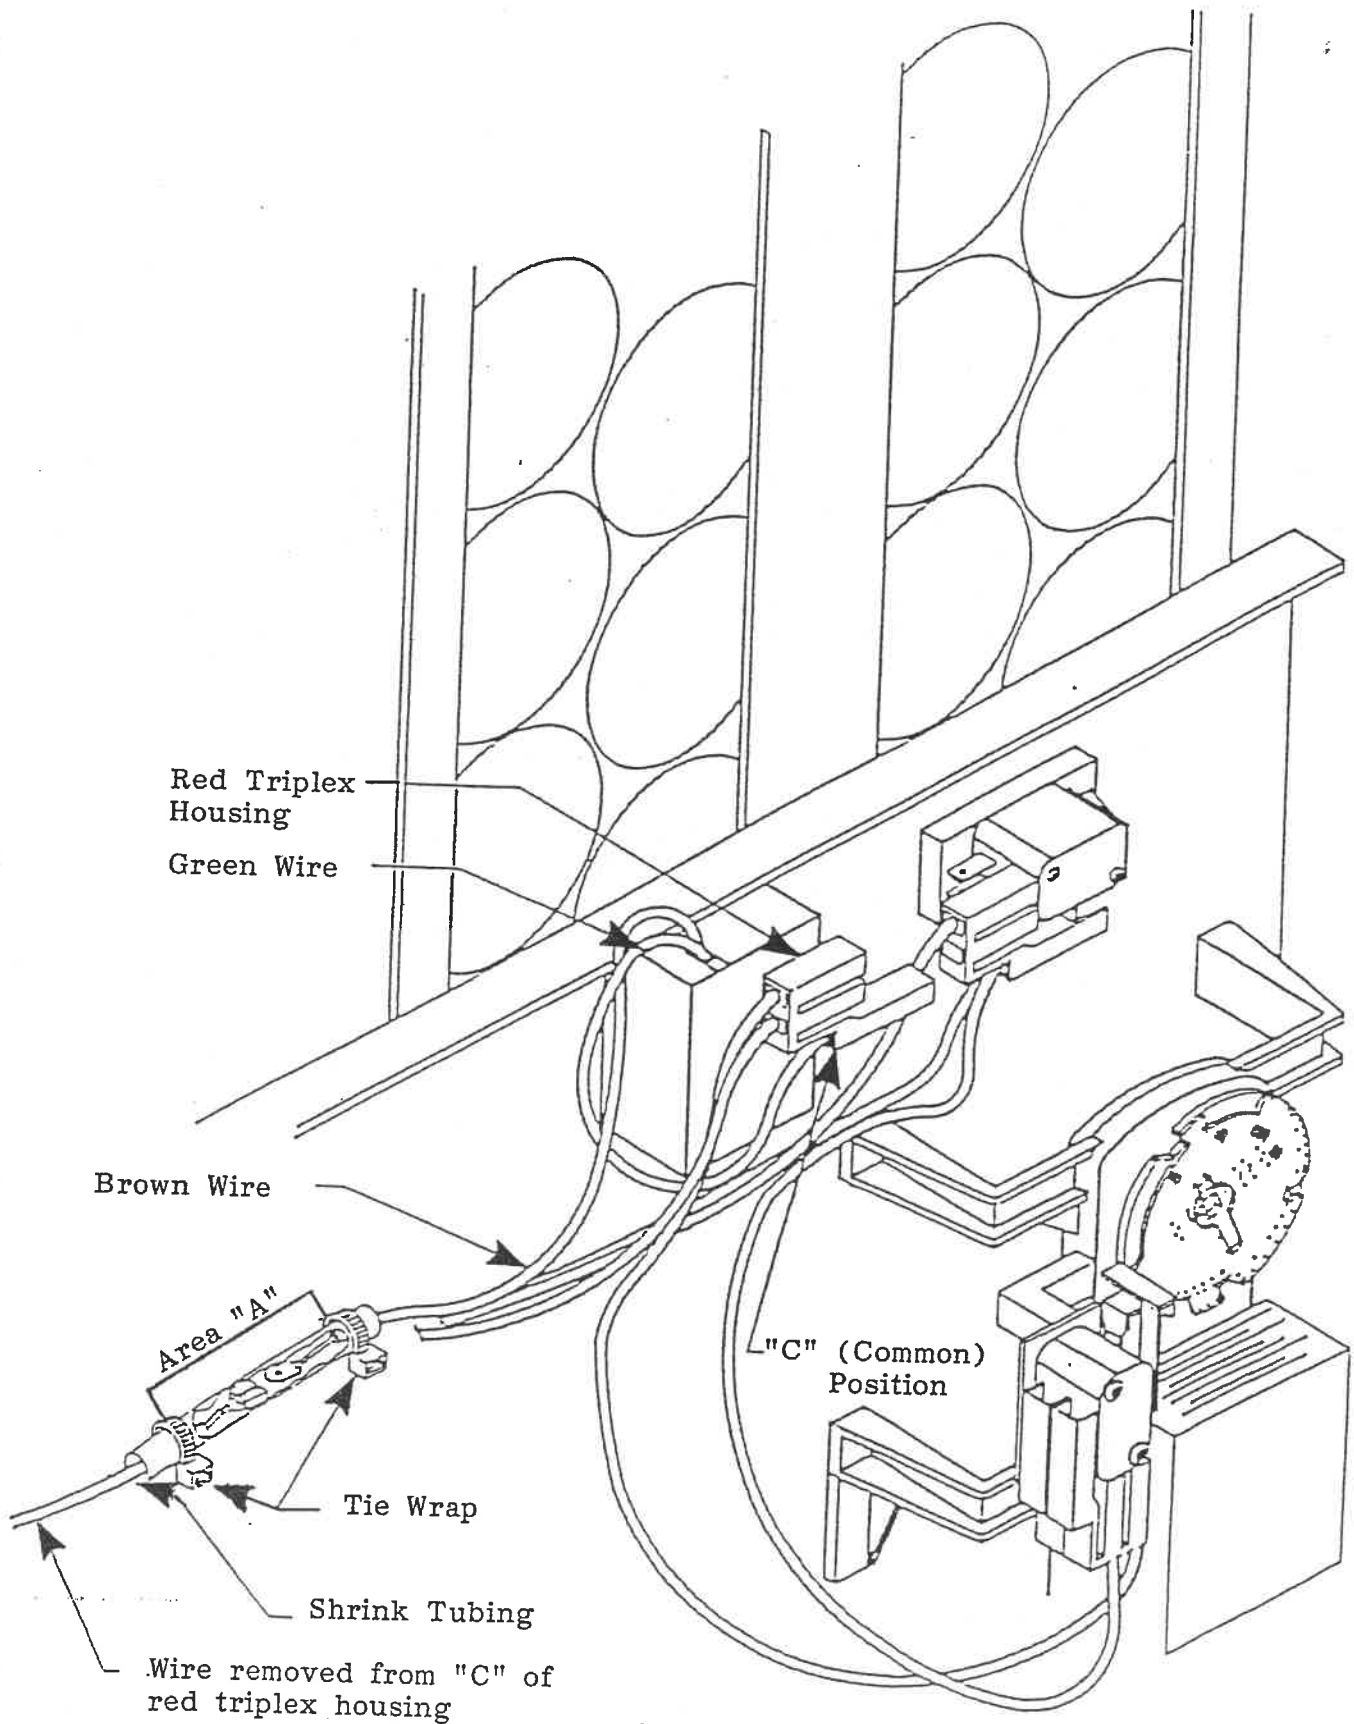

Figure 1
4. Note: One module will control one (1) column only.
6. Locate the red triplex housing on the sold out switch of the column you are going to install the module. (See figure 1.)
8. Remove the wire from the "C" (common) position of the red triplex housing. (See figure 1.)
10. Insert the tab of the brown wire from the module in the receptacle of the wire removed from the red triplex housing in step 8. (See area "A" of figure 1.)
11. Slide the shrink wrap tubing in position over the tab and receptacle connection for safety. (See figure 1.)
13. Insert the receptacle of the green wire from the module in the "C" (common) opening in the red triplex housing. (See figure 1.)
1. On a single price vender, one column does not need a module installed. Example: A six (6) select vender includes selections 1, 2, 3, 4, 5 & 6. Install modules on columns 2, 3, 4, 5 and 6. Important: On a sequencing vender, one of the sequencing columns does not need a module installed. Example: A seven (7) select vender includes selections 1 & 2, 3, 4, 5, 6, 7 & 8. Install modules on columns 2, 3, 4, 5, 6, 7 & 8.
10. Insert tab of the brown wire from the module in the receptacle of the wire removed from the red triplex housing in step 8. (See area "A" of figure 1.)